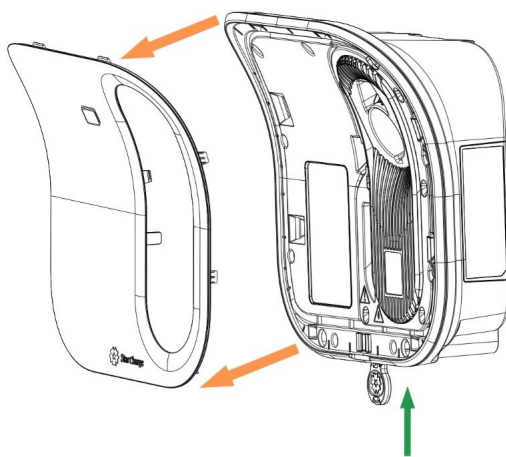
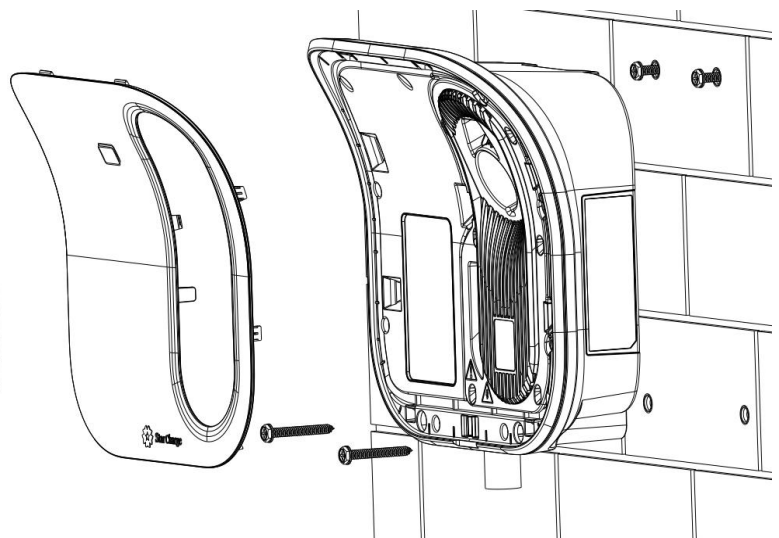

Fig. 4-6 Remove the decorative cover
Fig. 4-7 Installing the charger
- Use the key to open the decorative cover of the charger, hang the charger on the top two extended screws, and insert the two self-tapping screws at the bottom through the front screw mounting hole of the charger to fix the charger, as shown in Fig. 4-6 and Fig. 4-7.